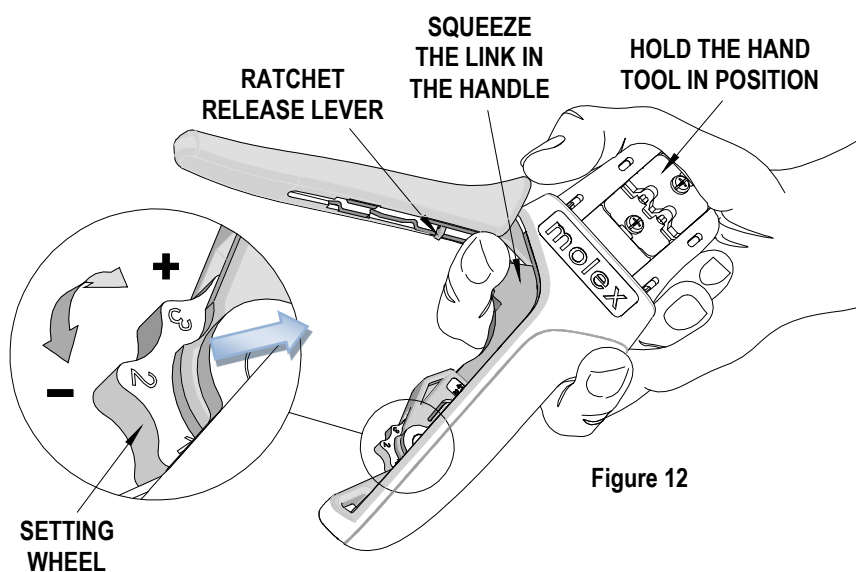

Figure 12
1. Hold the hand tool in the palm of your hand as shown in Figure 12. Using your index finger, squeeze the link toward the top of the hand tool frame. This will release the preload adjustment wheel.
2. Rotate the setting wheel counter-clockwise (CCW) to increase handle force. The numbers will display higher. To decrease handle force, rotate the setting wheel clockwise (CW).